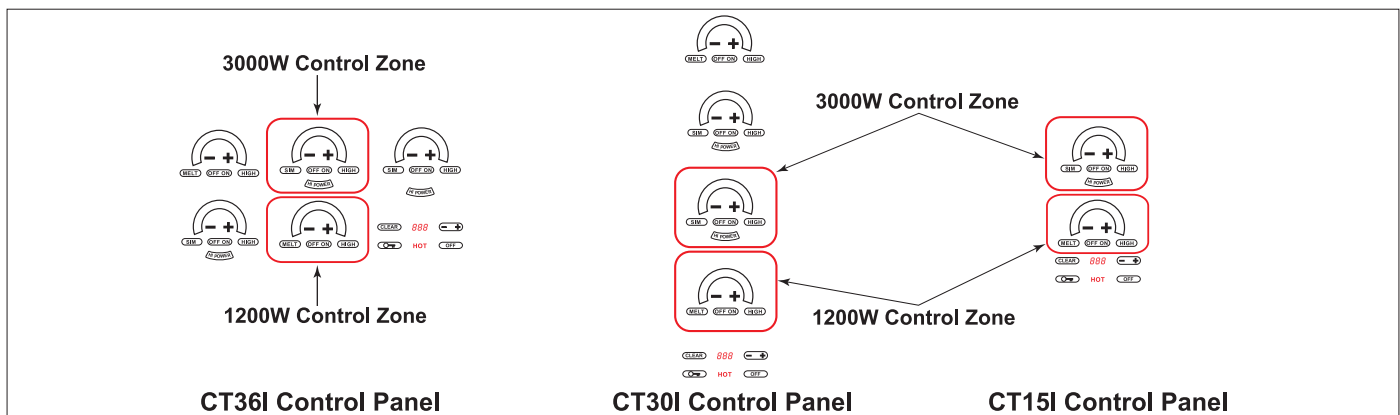

Figure 5-2.
Upon entry to Diagnostics Mode, the LED Test will automatically start. To step through tests, the user will use the "+" and "-" keys of the 3000W coil (the rear element, HI-POWER). The 3000W control will step up one LED for each test to identify which test is being performed. See the individual descriptions for each model, in Figure 5-2 below).
1. Upon entry to Diagnostics Mode, the LED Test will automatically start. To step through tests, the user will use the "+" and "-" keys of the 3000W (the rear element, HI-POWER) inductor (See Figure 5-2).